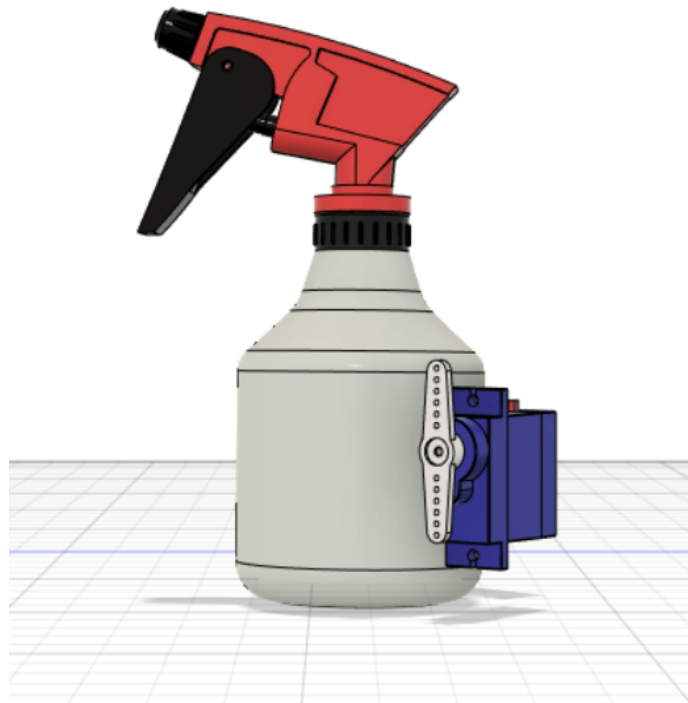

Figure C.6: Spray bottle with servo attached to one side
6. Once you figure out the distance the spray bottle should be at, attach the two servo motors to the sides of the spray bottle at a slight angle like in Figure C.6 and C.7 using duct tape